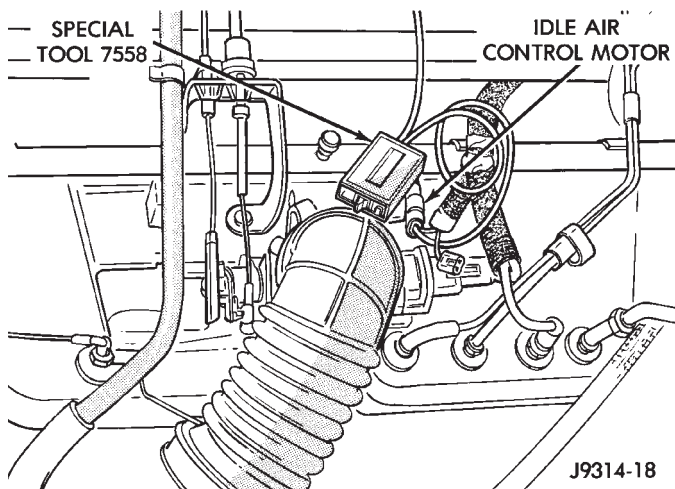

Fig. 42 IAC Motor Testing—Typical
Idle Air Control (IAC) Motor operation can be tested using special exerciser tool number 7558 (Fig. 42).
- (1) With the ignition OFF, disconnect the IAC motor wire connector at throttle body (Fig. 42).
- (2) Plug the exerciser tool number 7558 harness connector into the IAC motor.
- (3) Connect the red clip of exerciser tool 7558 to battery positive terminal. Connect the black clip to